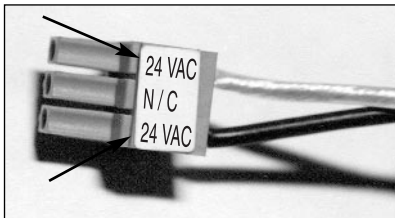

Figure 2 Power Connector
1. Unplug the connector (FIGURE 2) from the AutoTracker module.